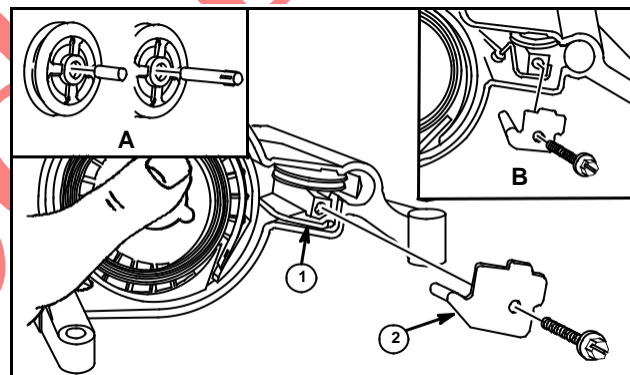

Fig. 53
8. Remove rope guide and note position of link before removing assembly from housing, Fig. 53.
9. Rope pulley and pin (Inset "A"), when used, may be replaced if worn or damaged. Inset "B" shows alternate style link. Typical link (1), rope guide (2), Fig. 53.